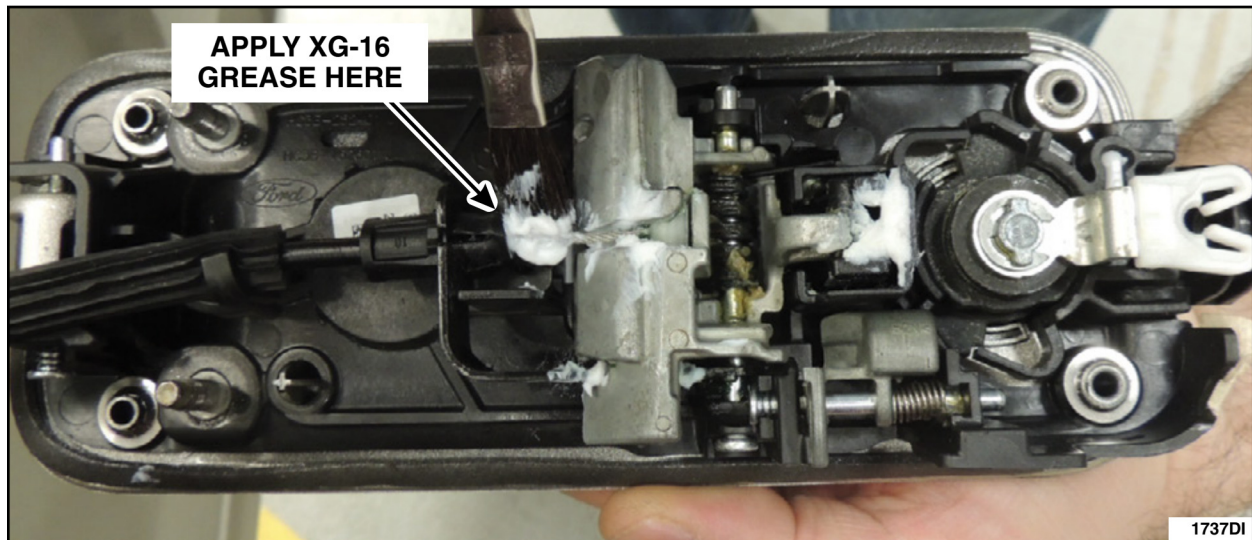

FIGURE 28
39. Reconnect the exterior door handle cable to the door handle and lubricate the door handle cable end with Motorcraft® XG-16 low temperature grease, as shown in Figure 28.